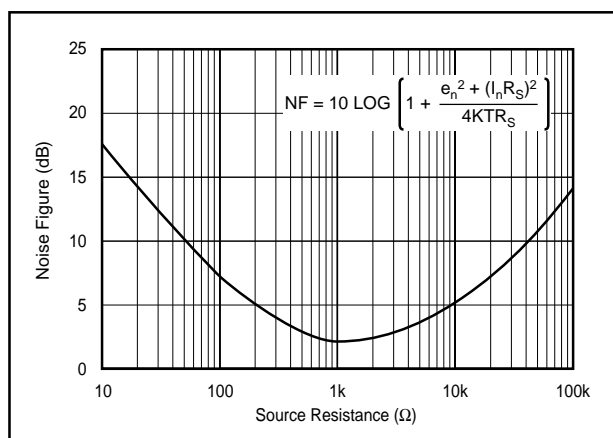

FIGURE 7. Noise Figure vs Source Resistance.
The OPA641 voltage and current noise spectral densities are specified in the Typical Performance Curves. For RF applications, however, Noise Figure (NF) is often the preferred noise specification since it allows system noise performance to be more easily calculated. The OPA641's Noise Figure vs Source Resistance is shown in Figure 7.